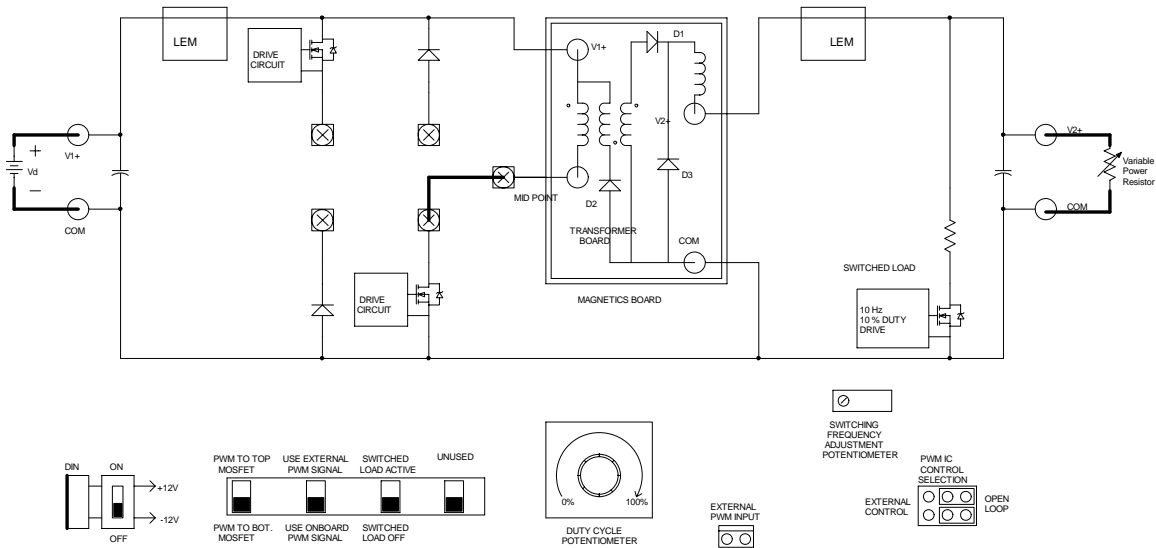

Figure 6.1: Schematic of Forward Converter
Make the connections on the power-pole board as shown in Fig. 6.1 to use the lower MOSFET.
- Check the circuit connections as per Fig. 6.1